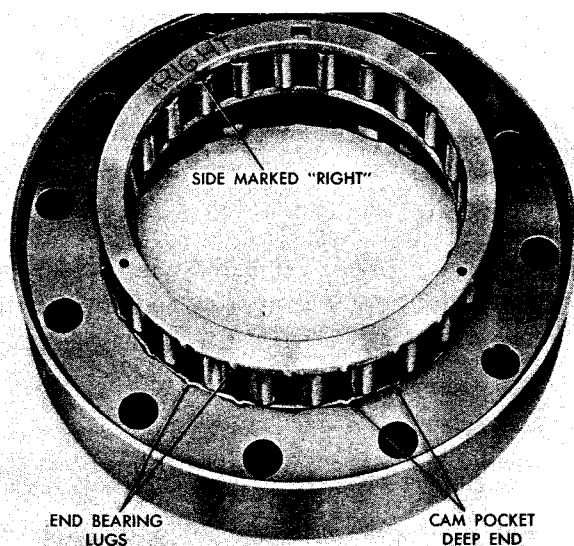

Fig. VI-8. Installing roller cage and end bearings into cam (in units with S/N 101 through 151)
(5) Install roller clutch assembly 6 (B, foldout 4) into the freewheel cam 5 with the side marked with the word **RIGHT** facing to the rear of the transmission (fig. VI-8 and VI-9). Be sure to install the assembly with the end bearing lugs in the deep end of the cam pockets.
(6) After the lugs on the one end bearing are properly started in the cam pockets, rotate the end bearing marked **RIGHT** counter-clockwise enough to locate the lugs on it in the